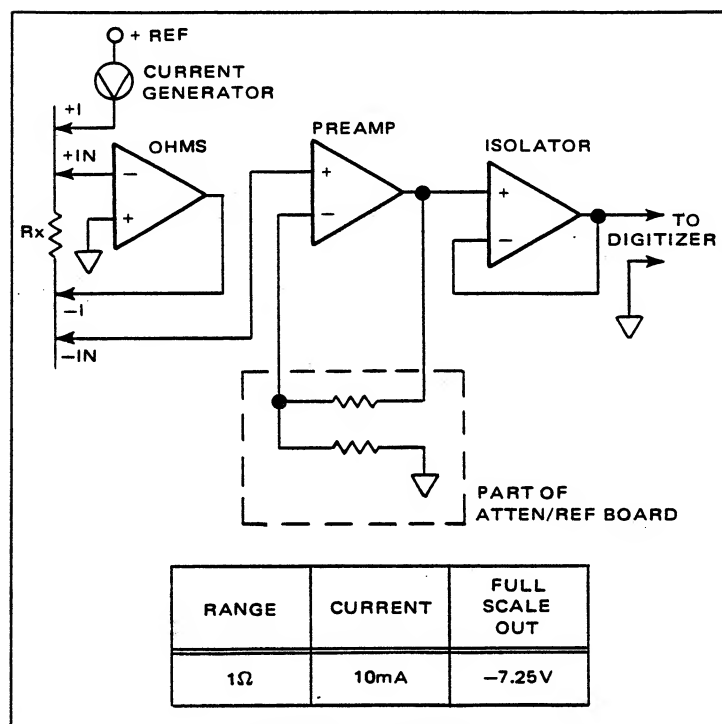

Figure 5.11 - 1Ω Range
5.3.4.5.5 1Ω Range (Option 41). As shown in Figure 5.11, the output of the Ohms amplifier is applied to the positive input of the Preamplifier (Option 41). The Preamplifier provides a gain of 725 and the output is applied to the positive input of the Isolator. The Isolator has a closed loop gain of 1.0 and serves as a buffer between the Preamplifier and the Digitizer. The full scale output of the Preamplifier and Isolator is -7.25 volts.